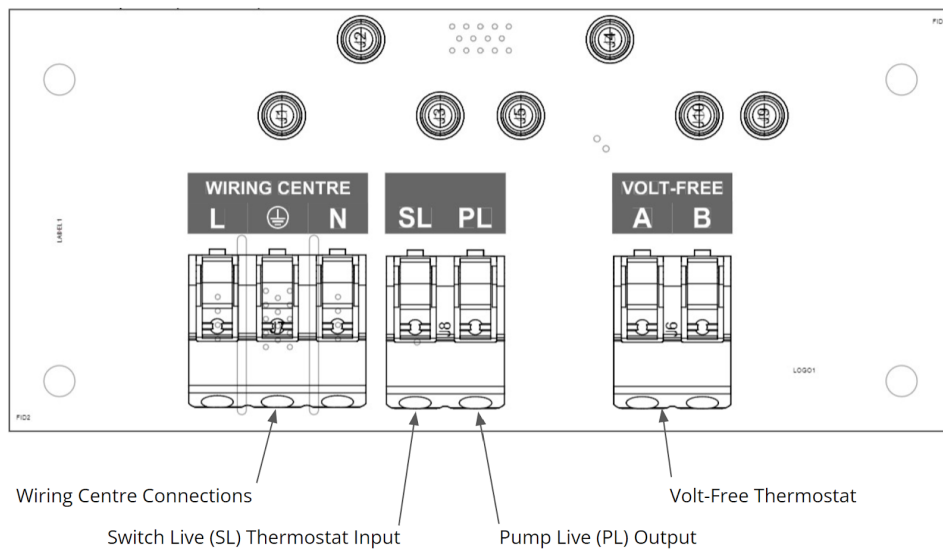

Figure 8: Comms Box wiring terminals
- The communications box wiring is detailed in **Figure 8**: